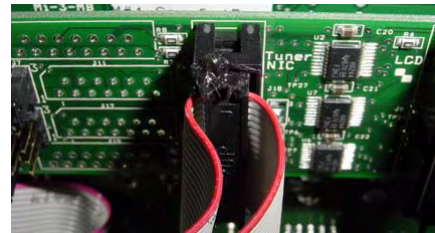
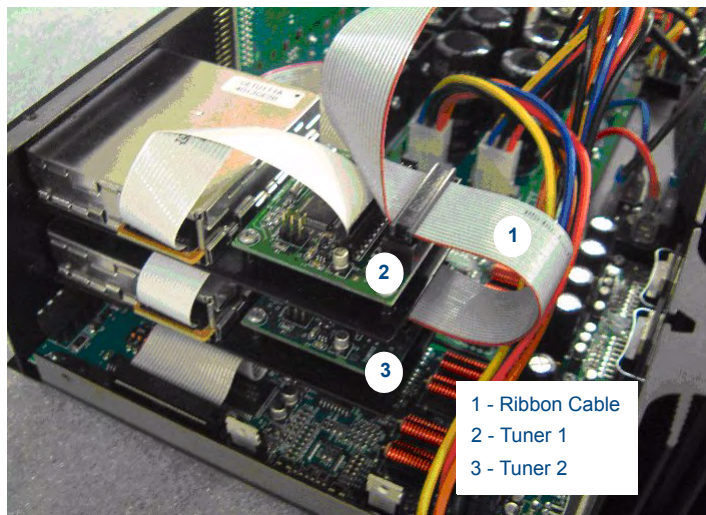

FIG. 4 20-Pin Connector and Ribbon Cable
FIG. 6 Dual Tuner Cable Hook-Up
- Be sure that both ends of the cable are securely plugged into their respective boards through the 20-pin connectors (FIG. 4).
The ribbon cable should be connected as shown in FIG. 6 and connected to the Rear Panel as shown in FIG. 4.